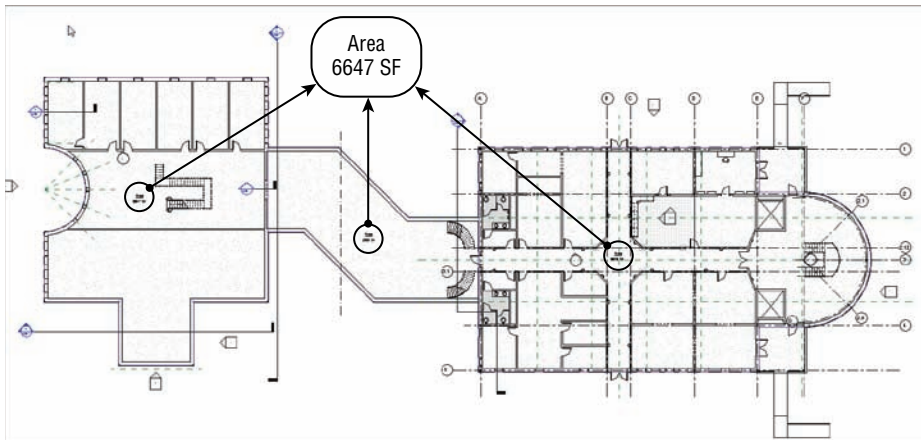

FIGURE 15.28 The plan is divided into three areas.
10. Place an area in the west wing, then in the corridor, and then in the east wing, as shown in Figure 15.28.